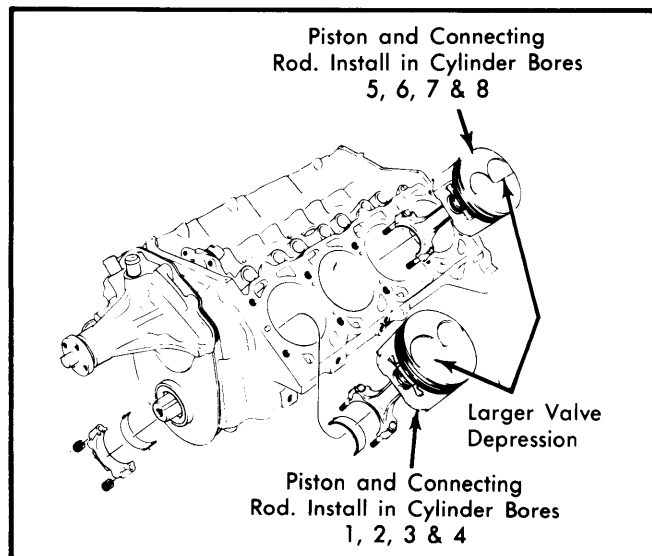

Fig. 8 Piston Installation
2) On cylinders 1,2,3 & 4, the larger valve depression goes toward the front of engine. Cylinders 5,6,7 & 8, the larger depression goes toward rear of engine. See Fig. 8.